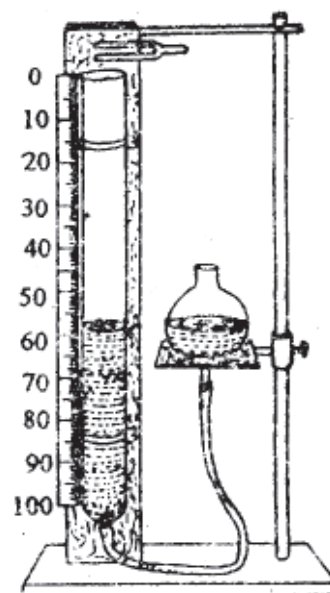

Fig. 10.2 : The resonance tube apparatus
- (iii) The resonance tube apparatus is shown in Fig.10.2. Set it in vertical position with the help of levelling screws attached to its base and spirit level. Fill the reservoir with water and raise it to adjust the water level in the long tube to a point near the top. Do not overfill the reservoir otherwise it will overflow when you lower it. Practice lowering and raising the water level in the tube to get the "feel" of the apparatus.